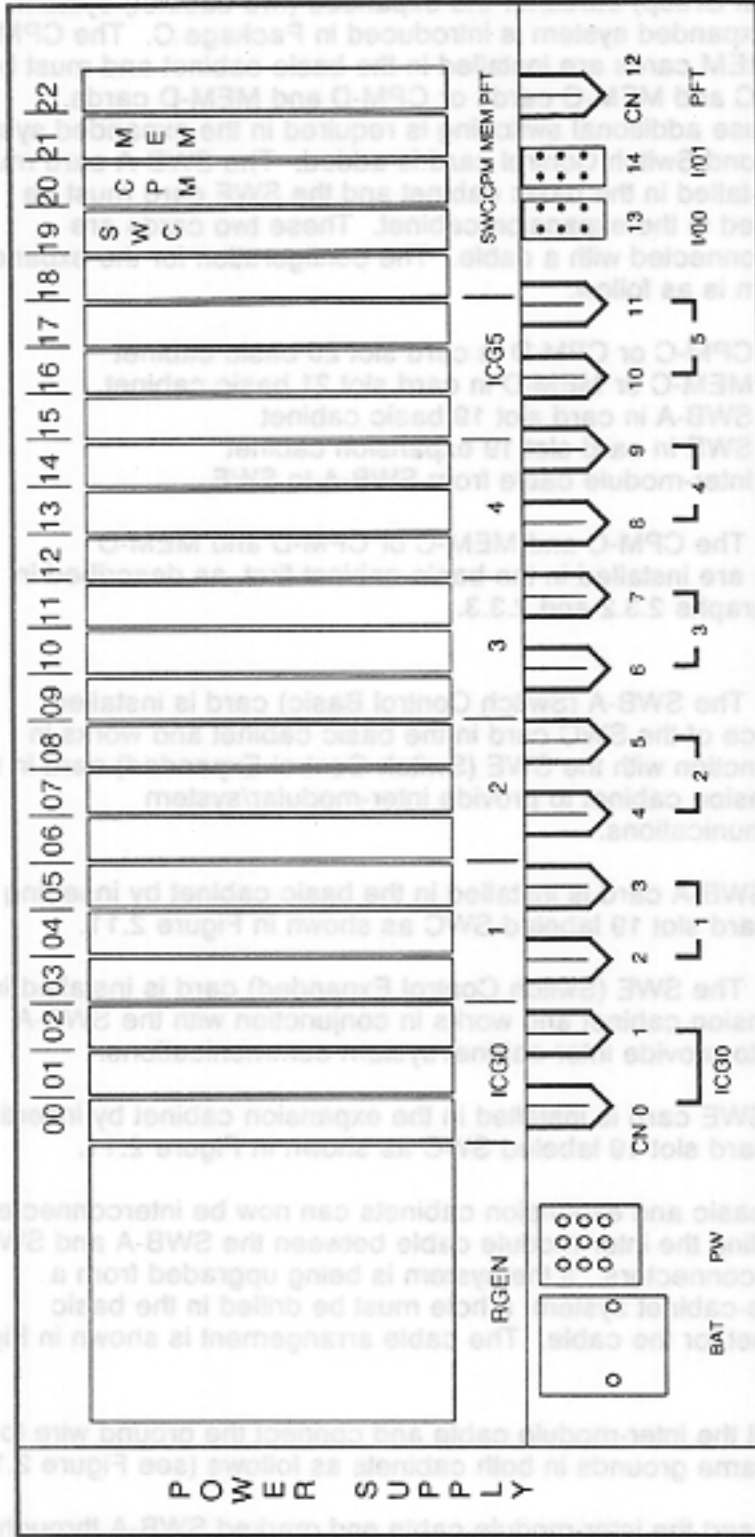

Figure 2.11 Placement of CCG (Common Control Group) Cards
The CPM is installed in the basic cabinet by inserting it into card slot 20 labeled CPM as shown in Figure 2.11.
2.3.3 The Memory (MEM) card provides expanded memory to the CPM card. The MEM card is installed in the basic cabinet by inserting it into card slot 21 labeled MEM as shown in Figure 2.11.
2.3.4 The SWC (Switch Control) card performs the time-division switching, multiplexing, tone source mixing, and padding circuits. The SWC card is installed in the basic cabinet by inserting it into card slot 19 labeled SWC as shown in Figure 2.11.
The SWB-A card is installed in the basic cabinet by inserting it into card slot 19 labeled SWC as shown in Figure 2.11.
The SWE card is installed in the expansion cabinet by inserting it into card slot 19 labeled SWC as shown in Figure 2.11.